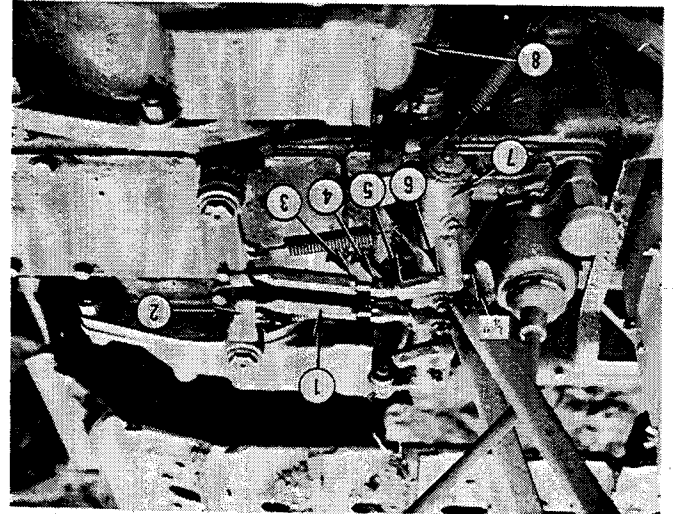

Fig. 4 — STEERING LINKAGE ADJUSTMENT
Adjust steering clutch linkage, No. 1, Fig. 4, to provide for 5/8 to 7/8 inch lever free travel measured at instrument panel height.
To adjust free travel, loosen locknut, No. 3, Fig. 4, and shorten or lengthen steering clutch control linkage by turning adjuster accordingly. Secure adjuster with locknut.
3. With steering lever held in the exact position outlined in step 2, adjust the brake lever "adjustor" to provide for 1/4" clearance between the "adjustor" and pick-up lug on steering lever. See Fig. 4. Use a 1/4" gauge. A 1/4" thick end wrench may be used as a gauge.